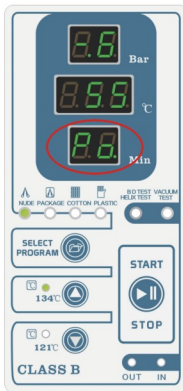

Fig. 8.4-3
(3) **First times Heating stage:** when the vacuum value reach Pv value, the steam generator start inject the steam into chamber, temperature display window show high temperature and up. pressure the steam into chamber, temperature display window show high temperature and up. pressure display window show high pressure and up. operation display window show “Po”. (Fig.8.4-3)
(6)**Second times Heating stage:** When the vacuum value reaches -0.7bar value,the control system will open water pump solenoid valve(Ev2) and steam generator start inject the steam into chamber,temperature display window show high temperature and up.pressure display window show high pressure and up.operation display window show “Po” .(Fig.8.4-3)
(9)**third times Heating stage:** When the vacuum value reaches -0.7bar value,the control system will open water pump solenoid valve(Ev2) and steam generator start inject the steam into chamber,temperature display window show high temperature and up.pressure display window show high pressure and up.operation display window show “Po” .when temperature in chamber up to 134℃(134℃ sterilization program) or 121℃(121℃ sterilization program),start sterilization.(Fig.8.4-3)